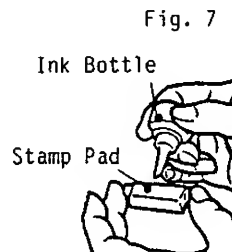

Fig. 7
2. Press the Free Lever down and pull the old paper core upward to remove the remaining paper end. (Fig.7)
4. Apply ink to the replenishment pad at the back of the stamp unit. The amount of refilling should be adjusted according to the density of the printed message. (The supplied ink bottle contains 5cc of ink.) (Fig.7)